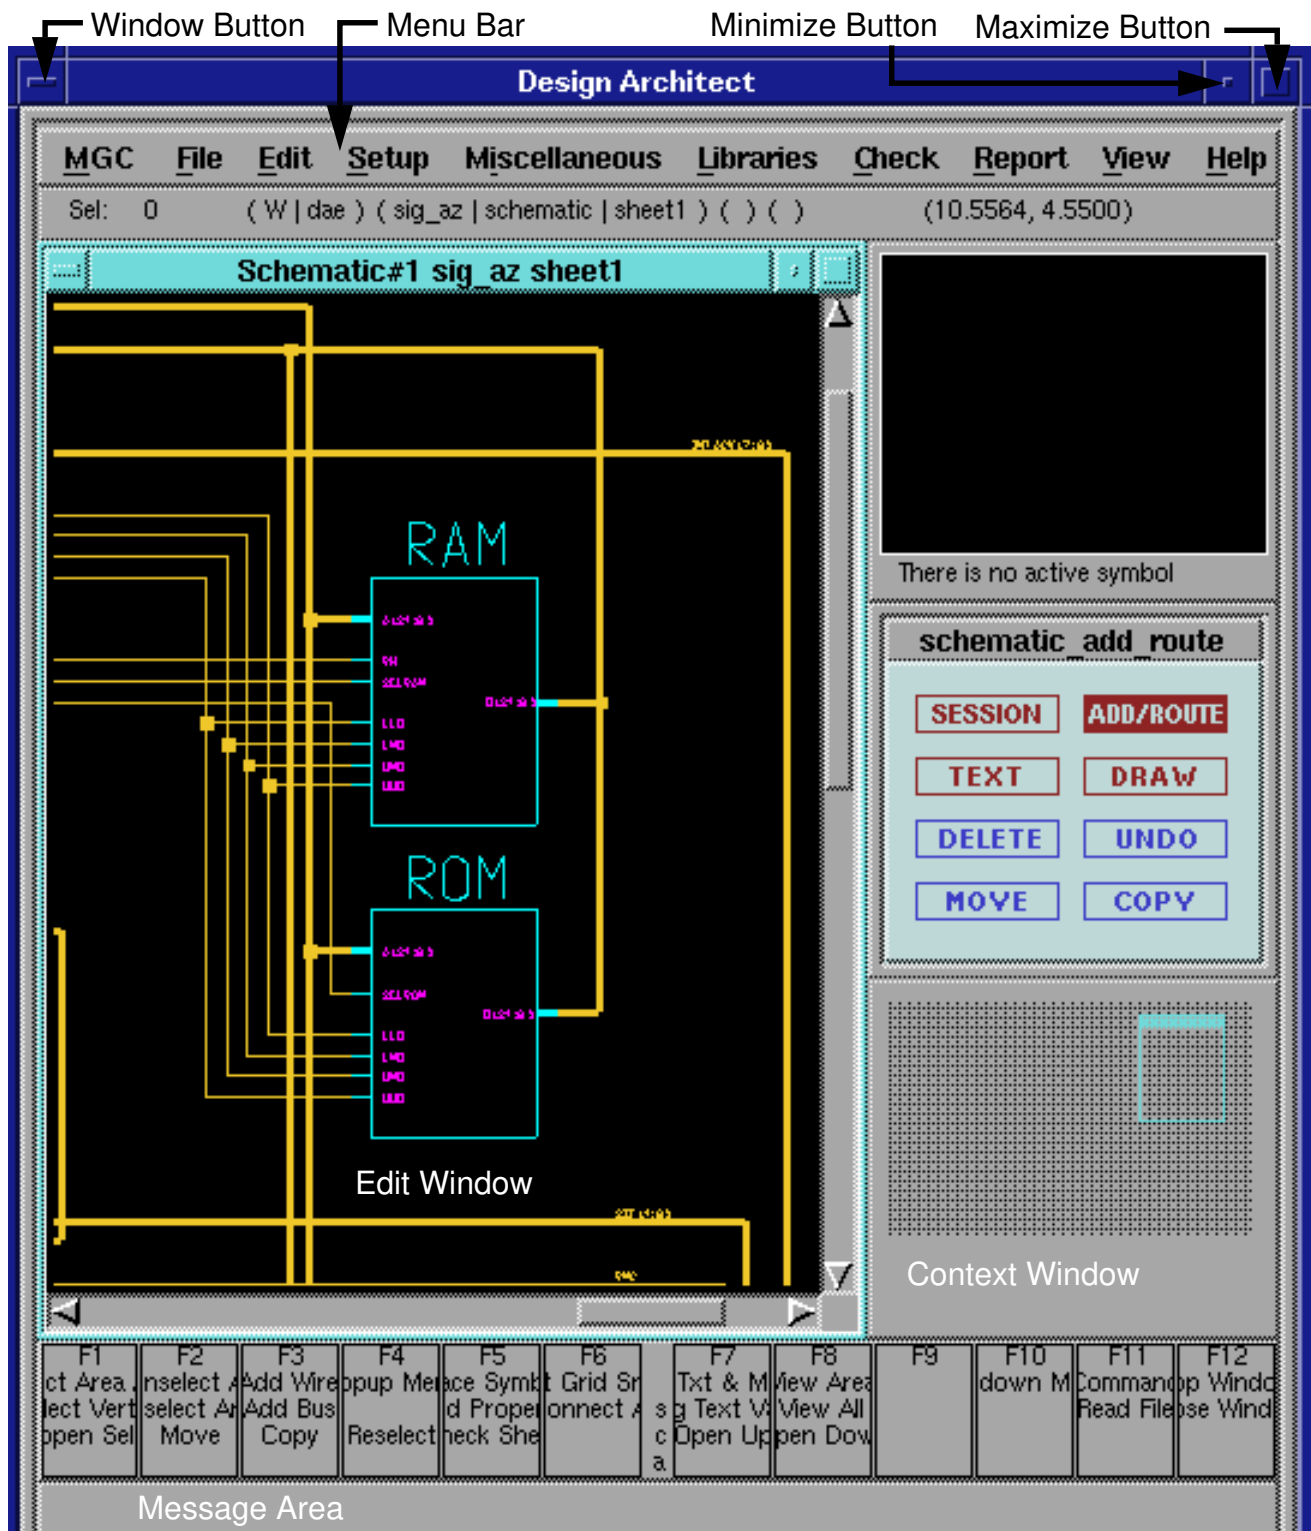

Figure 2-1. Session Window
- Session windows are created when you invoke a tool. The session runs in an UNIX shell so you can pop between Session windows. A Design Architect Session window is shown in Figure 2-1.